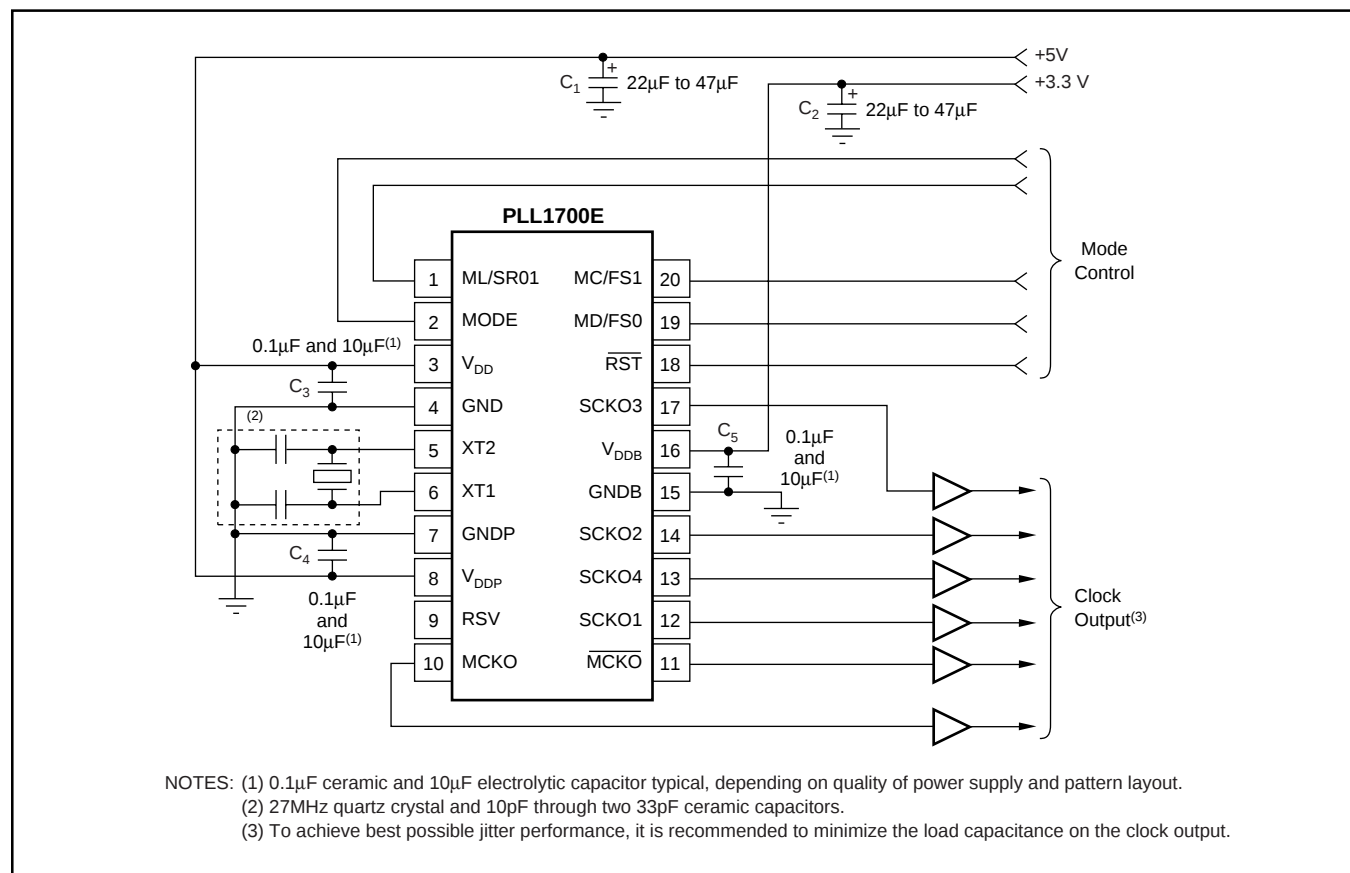

FIGURE 10. Typical Connection Diagram.
Figure 10 shows the typical connection circuit for the PLL1700. There are three grounds for digital, analog and PLL power supply. However, the use of one common ground connection is recommended to avoid latch-up problems. Power supplies should be bypassed as close as possible to the device.
|      |          | 9    | Figure 10                            | Deleted note (1) from $C_1$ and $C_2$ .                                                 |